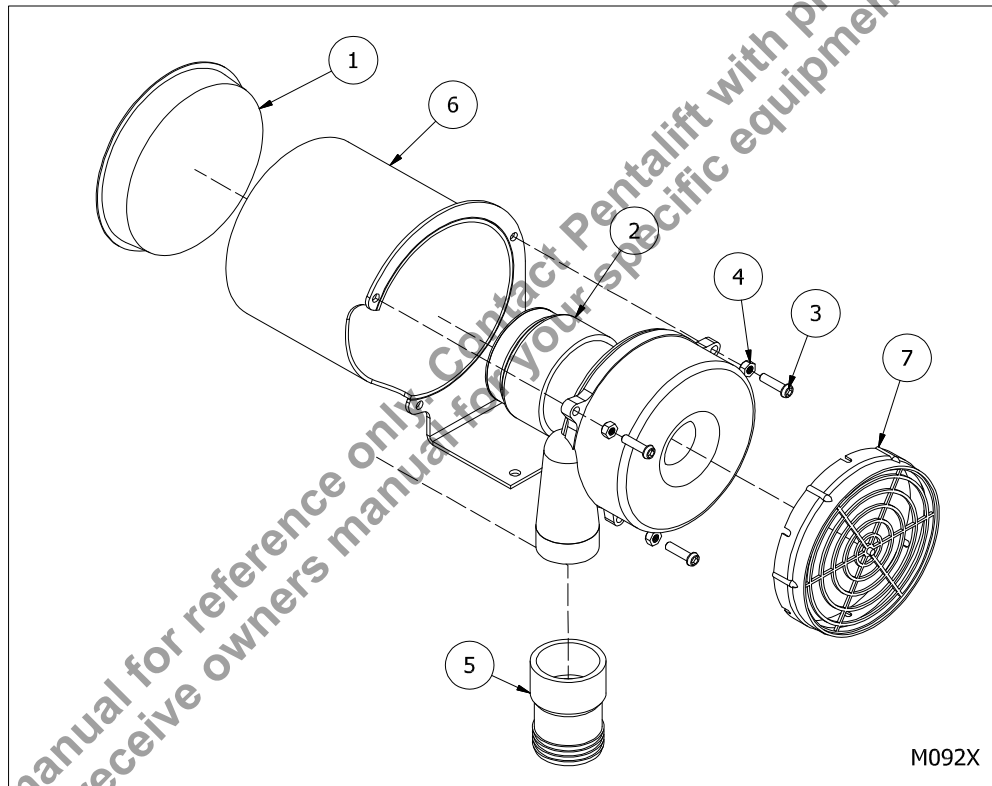

Figure 61: Blower Assembly Replacement Parts
2. Inspect the outward facing surface of the Air Filter Assembly. ("Figure 61: Blower Assembly Replacement Parts" on page 64) If dirt or debris is present replace with a new air filter (Available through your Pentlift representative). Alternatively it can be cleaned with an air pressure line, blowing from the inside portion of the filter assembly through the filter away from your body. Ensure you **DO NOT** blow the high pressure air in the direction of your skin or in the direction of any other persons.